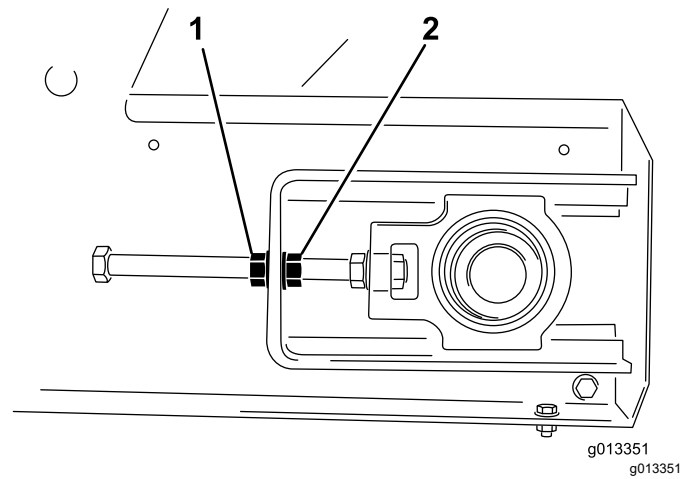

Figure 59
4. With 2 wrenches, hold the end of the tensioner rod stationary and then loosen the locking nut, which is the nut closest to the end of the rod (Figure 59).
3. On the side the belt is tracking towards, hold the end of the tensioner rod stationary, then loosen the locking nut and tighten the adjuster nut by 2 flats of the nut (Figure 59).